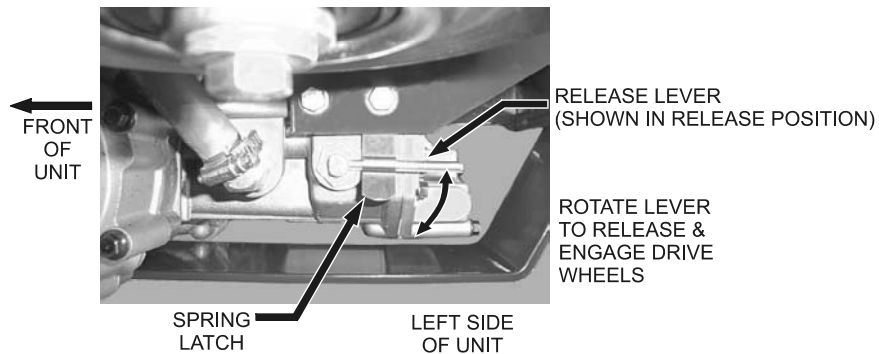

FIGURE 4
- 3.8.1 Rotate drive wheel release lever into position shown in Figure 4 to release drive system (Refer to Section 4.11). Roll tractor to mower deck and mower deck support aligning them so the tractor is positioned for ease of mounting the deck support. Remove center belt shield.
- 4.11 Drive Wheel Release Lever: Located under the lower left rear corner of the engine deck (See Figure 4). The drive wheel release lever is used to release the hydrostatic drive system to allow machine to be pushed while the engine is not running. Rotate lever 1/8 turn counter-clockwise until caught under spring latch to release drive system. Pull spring latch out far enough to allow lever to rotate 1/8 turn clockwise to engage drive system.